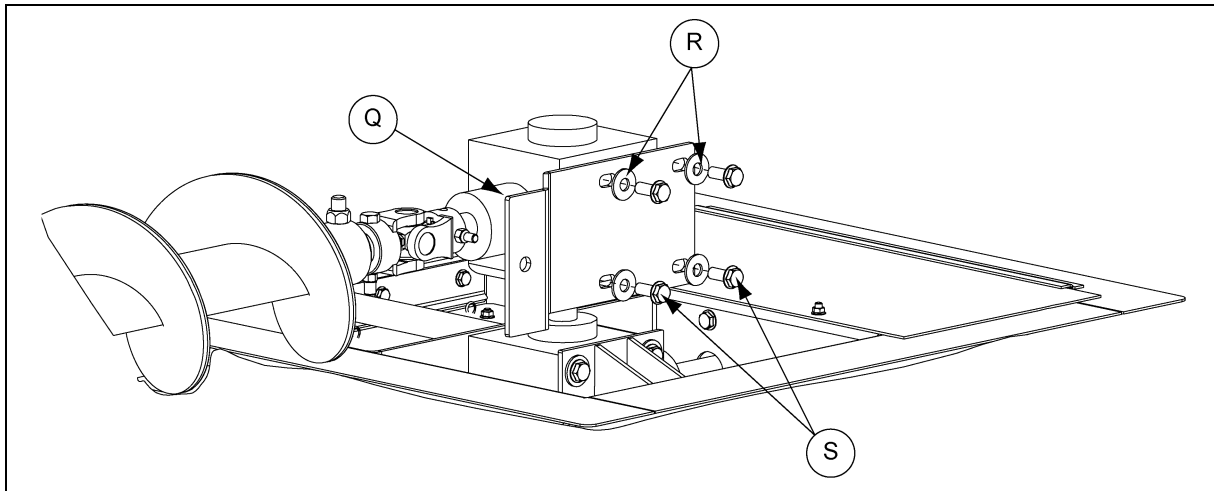

Figure 4AL
9. Attach the gearbox pivot bracket (Q) onto the gearbox with four (4) 1/2" x 1-1/4" flange bolts (S) and flat washers (R). (See Figure 4AL.)